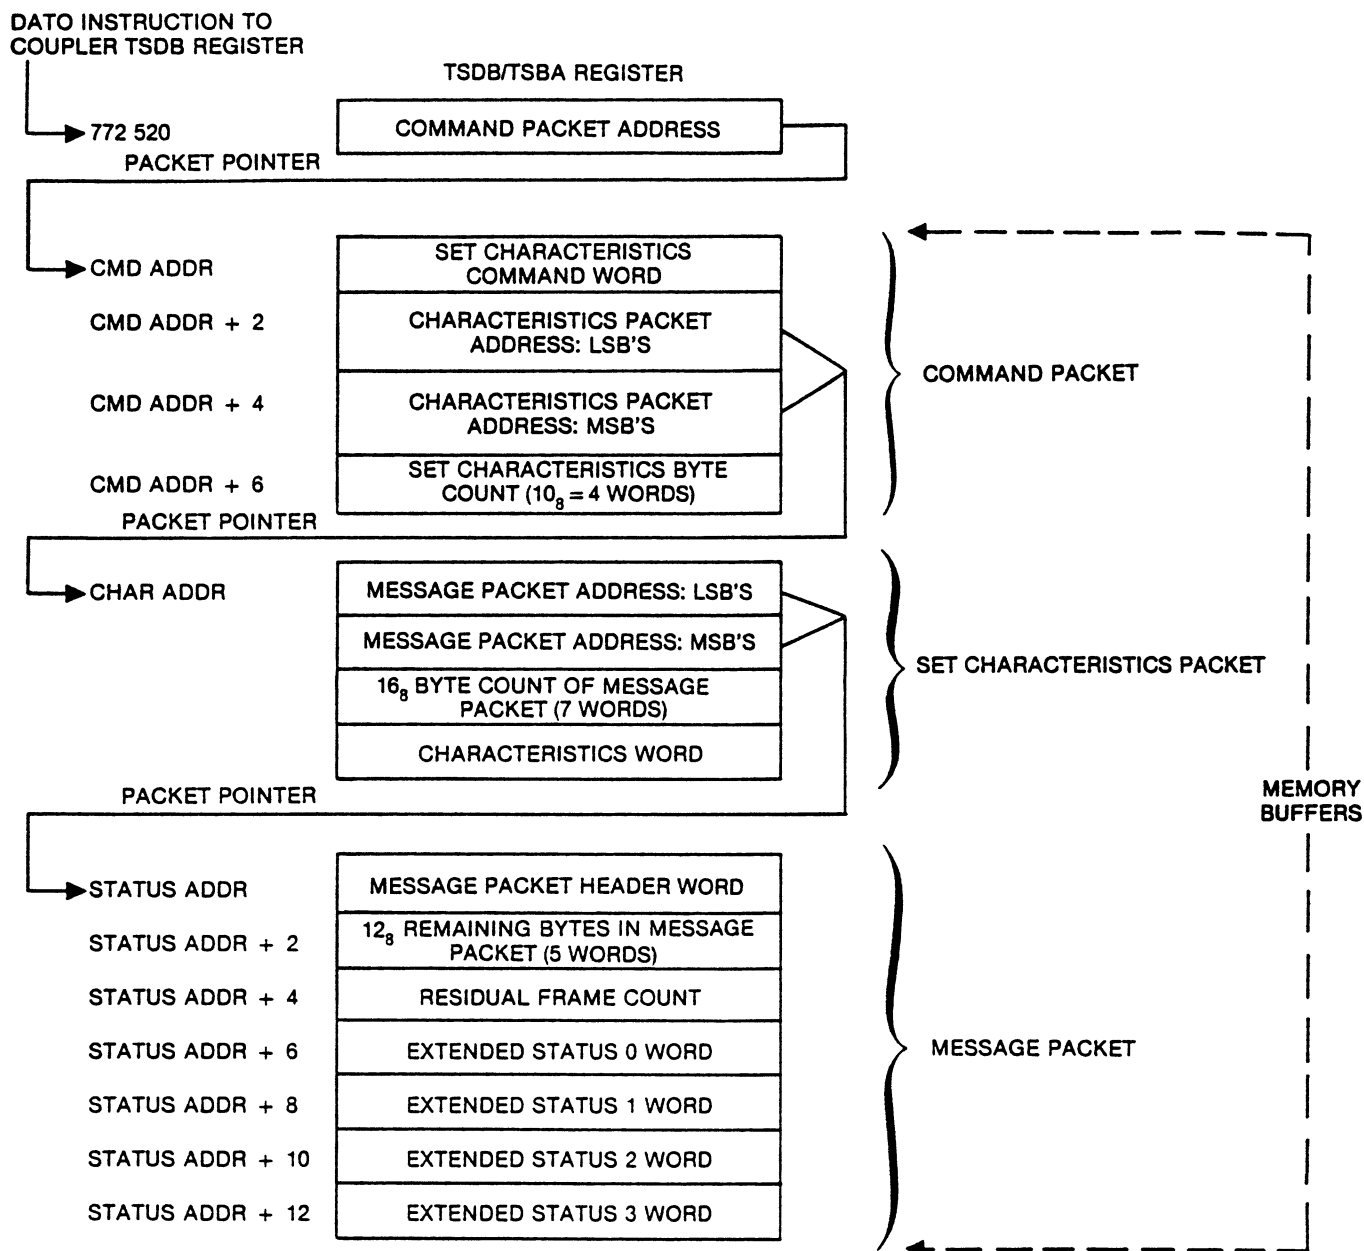

Figure 4-1. Typical SET CHARACTERISTICS Command Sequence
3. The controller accesses the command packet, which is typically "set characteristics." Note that the set characteristics command packet comprises 3 to 5 successive memory locations (6-10 bytes) that contain (see Figure 4-1):